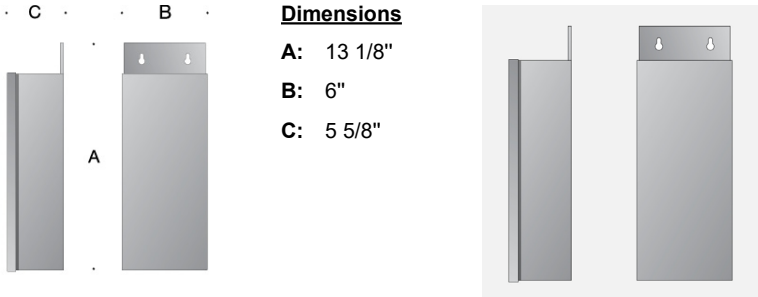

Figure 1: Install Diagram
4. Connect neutral (common) wires from lighting and connect to the block labeled "COM #1", located on the secondary connection block. [Figure 1]